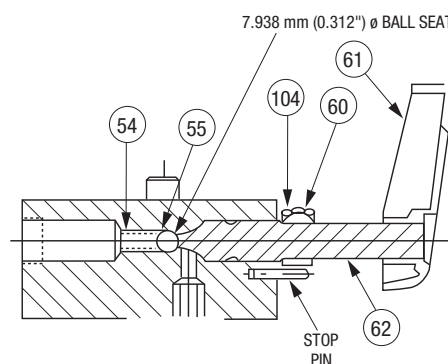
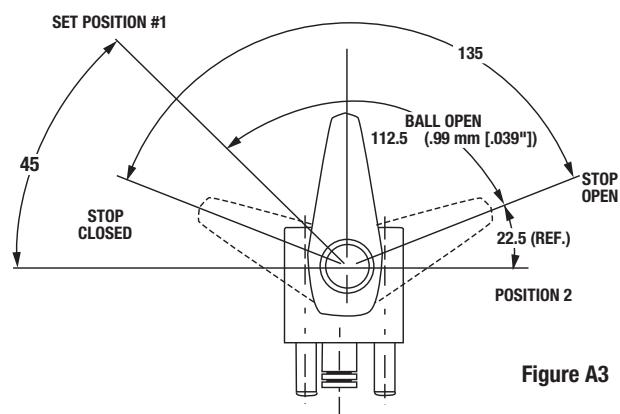

Figure A2 ⑧
Figure A3 ⑧
Manual control valve needs adjustment or repair.	See Hydraulic Schematic (8) and refer to Figures A2 and A3 in the Repairs section of this manual
The manual control valve needs to be adjusted.	See Manual Release/Automatic Release Valve Handle Setting, Figure A3 in the Repairs section of this manual.
Check ball does not seat properly.	See Manual Release/Automatic Release Valve Handle Setting, Figure A2, and Ball Seat Refinishing, Figure B4 in the Repairs section of this manual.
The manual control valve needs to be adjusted.	Adjust the handle. See Manual Release/Automatic Release Valve Handle Setting, Figure A3 in the Repairs section of this manual.
Manual control valve set incorrectly.	See Hydraulic Schematic (8) and refer to Figures A2 and A3 in the Repairs section of this manual.
Refer to Figures A2 and A3. Thread in the shaft (62) until it just touches the check ball (55) (in its spring-loaded closed position). Slide collar (104) on the shaft. Position the handle (61) at the location "Position 1," (Figure A3), with the other surface of the handle flush with the end of the shaft. Lock in place. Rotate the handle to "Position 2," (Figure A3). Slide the collar toward the valve body until it contacts the 15.9 mm (5/8") diameter portion of the control shaft. Rotate the lock collar clockwise until it touches the stop pin, and lock in place.